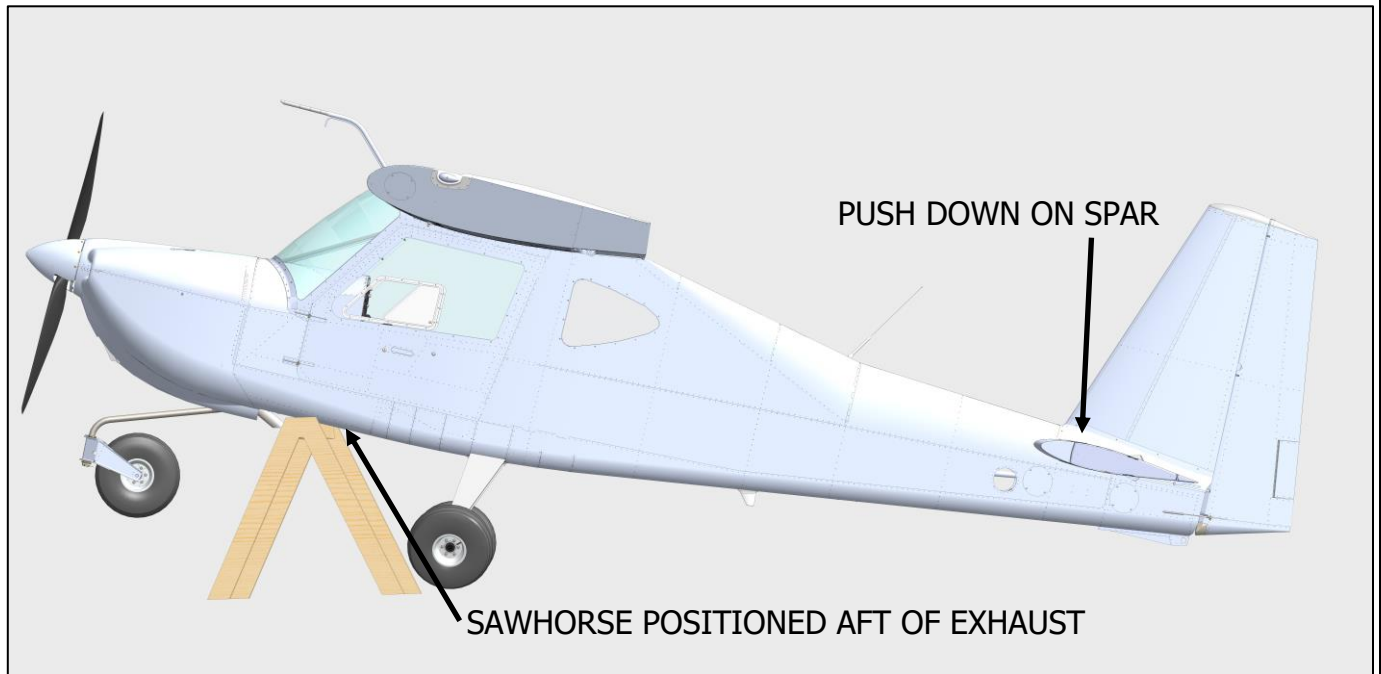

Figure 5.7.1.1 Lifting front of aircraft.
- (c) Place a padded sawhorse under forward fuselage as indicated in Figure 5.7.1.1.